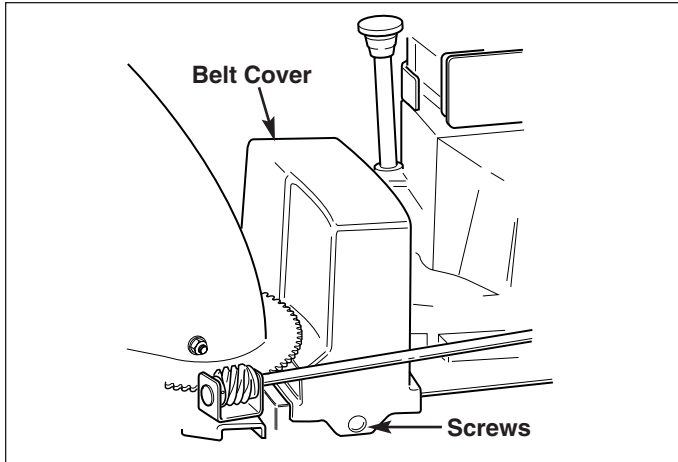

Figure 23. Belt Cover
1. Rotate the spout full right. Loosen the two screws (Figure 23) securing the belt cover.